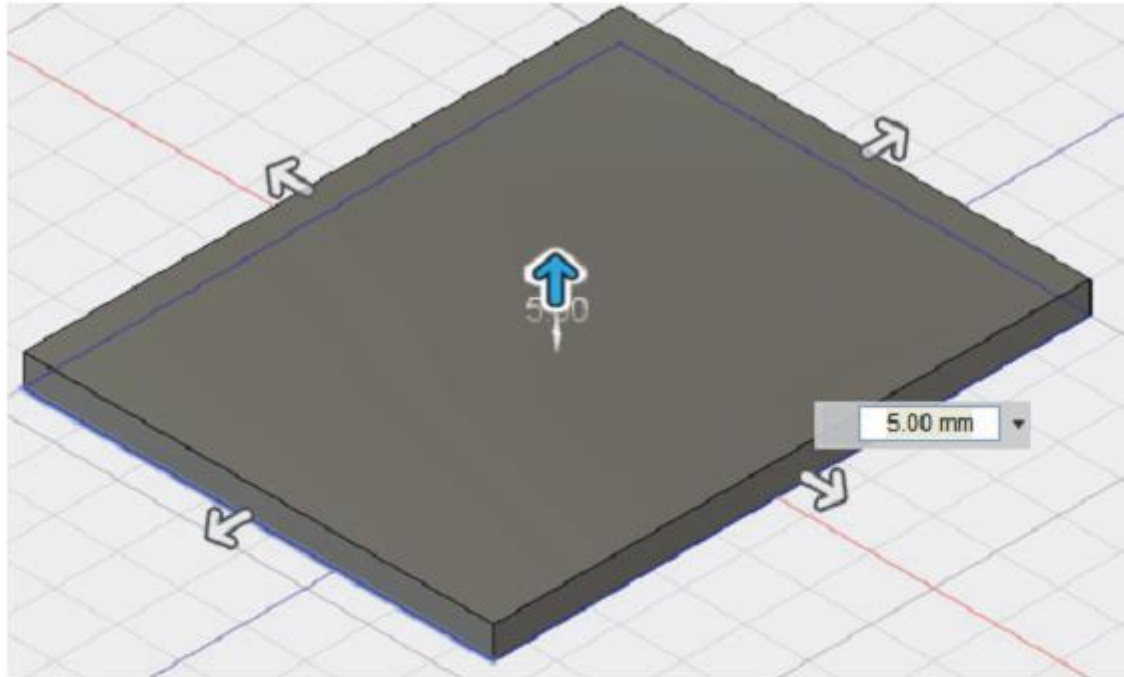

Figure 2–6
7. Click to create the box sketch. The shape is automatically given a third dimension, similar to that shown in Figure 2–6. Five manipulator arrows display surrounding the shape of the box, and the BOX palette opens.